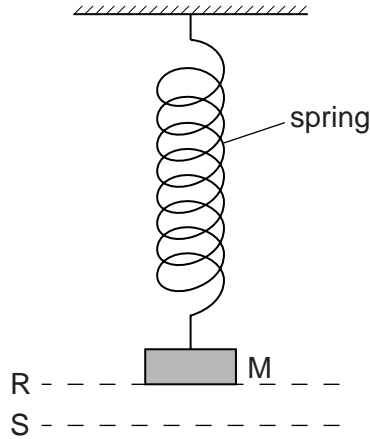

Fig. 6.1
(b) A spring is attached to a support and hangs vertically, as shown in Fig. 6.1. An object M of mass 0.41 kg is attached to the lower end of the spring. The spring extends until M is at rest at R.
(c) The object M in Fig. 6.1 is pulled down a further 0.060 m to S and is then released. For M, just as it is released,
- (d)** Describe and explain the energy changes from the time the object M in Fig. 6.1 is released to the time it first returns to R.